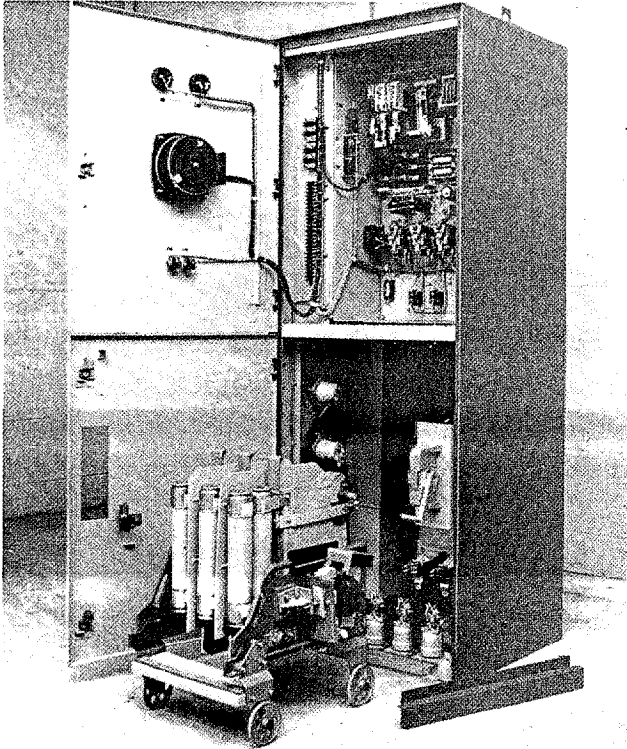

Fig. 27. Contactor rolled out of one-high enclosure.
5. Roll out the contactor (Fig. 26 and Fig. 27).